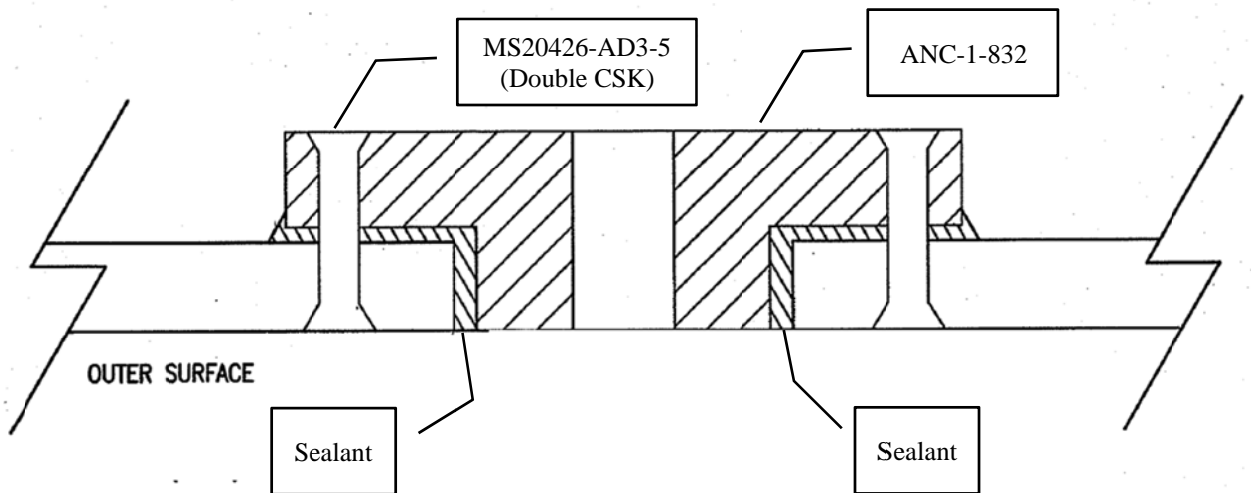

Figure 3 Cross Sectional View of Installed Anchor-nut
- 6) Apply Sealant AMS-S-8802 to the contact faces (See Figure 3).